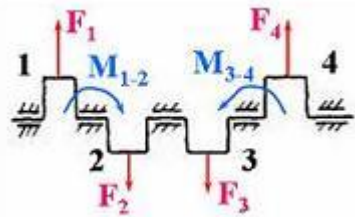

Fig.1 Force balance
- It is shown in Fig.1 that the force on the crankshaft has balanced with each other, but the torque couple M_{1-2} and M_{3-4} generate bending load to the crankshaft. Therefore, counterweights are employed to improve the loading condition of the crankshaft